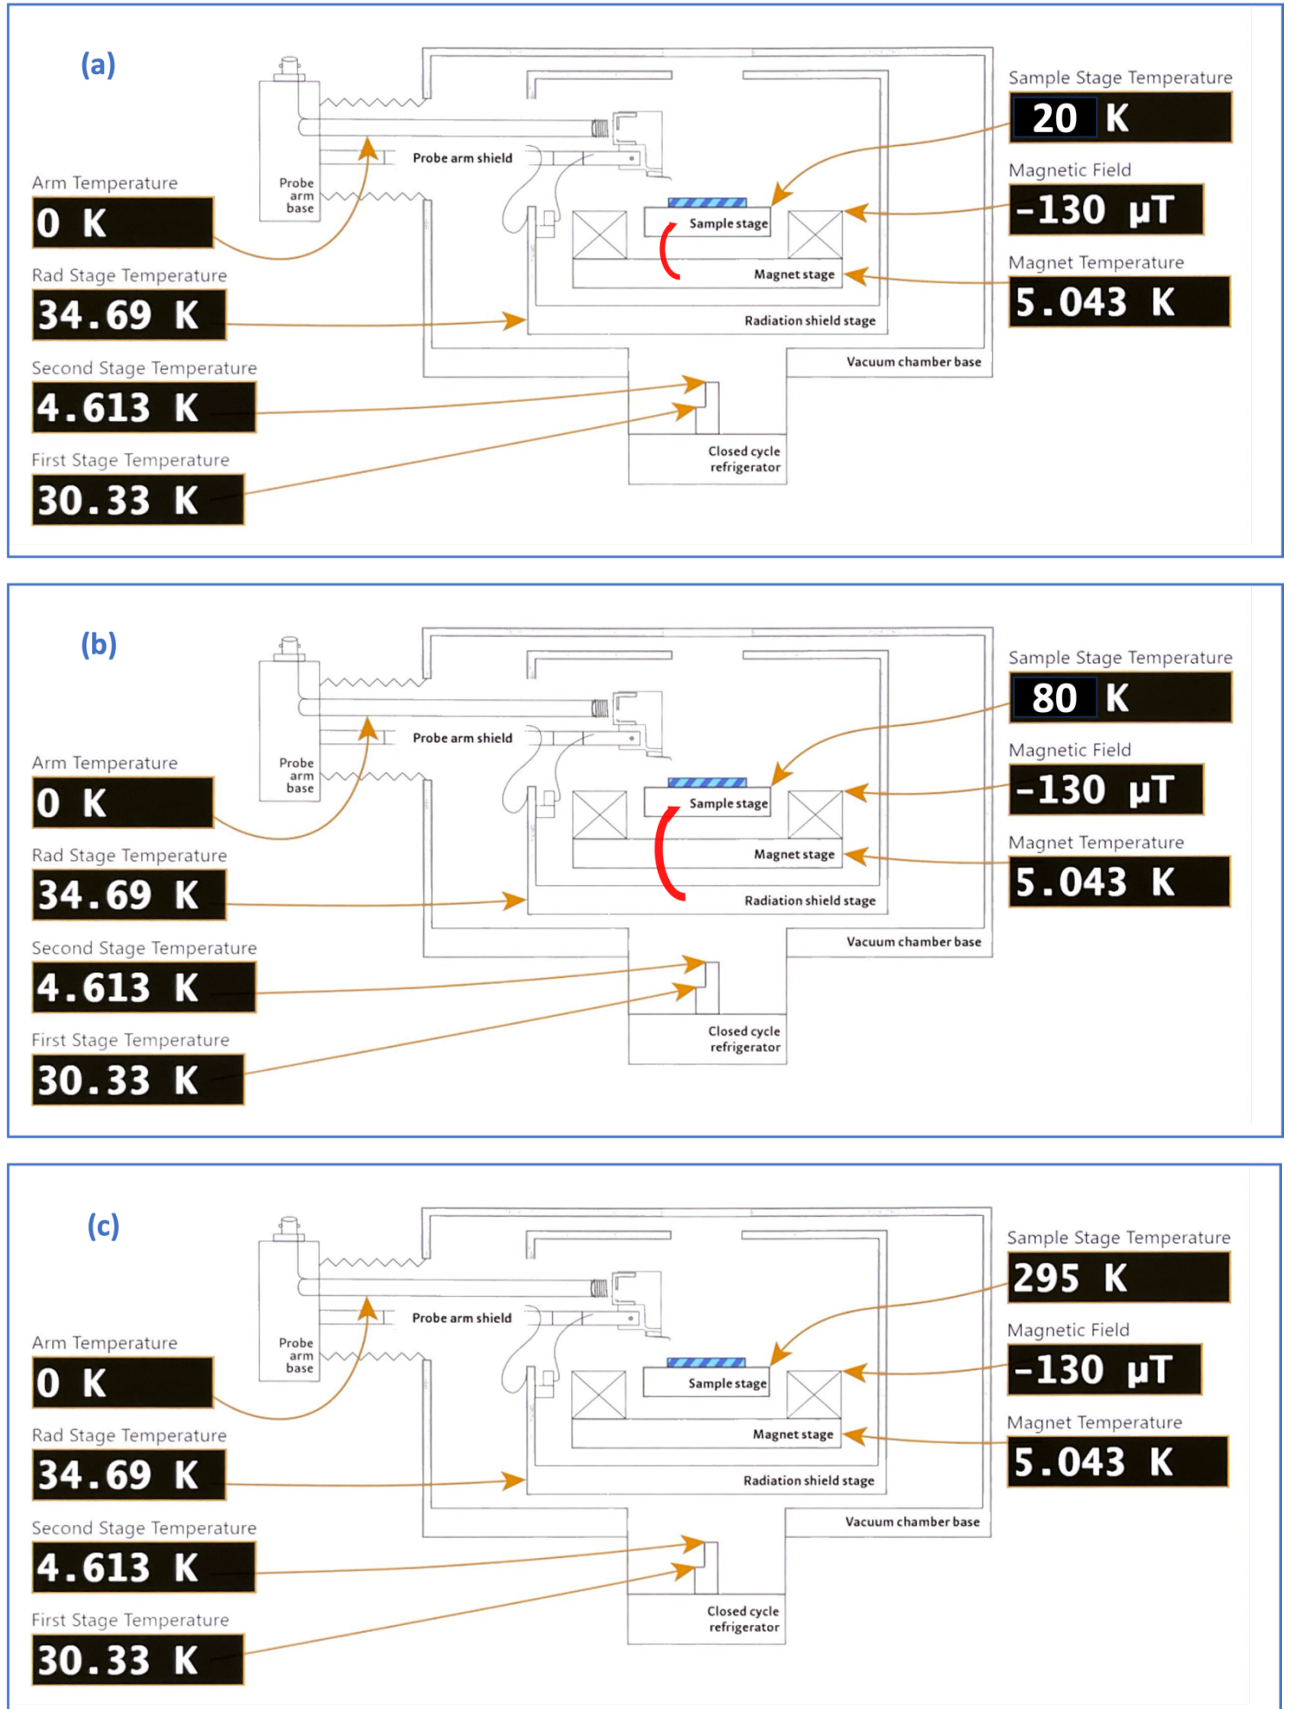

Figure 9. Sample stage thermal connection diagram
- To operate the sample stage **between 10 K to 35 K**, the heat switch should be in the **Base** range, where the sample stage is thermally connected to the magnet stage, as is shown in Figure 9 \(a\). Turn the heat switch knob towards the Rad position to increase the thermal resistance between the sample stage and magnet stage; while on the top Model 336 controller, set the sample stage setpoint to the desired temperature, and select the heating range to **Low**. The magnet and radiation shield stage heaters should remain off at this stage.
- To operate the sample stage **between 36 K to 100 K**, the heat switch is moved to the **Rad** position where the sample stage is thermally connected to the radiation shield stage, as is shown in Figure 9 \(b\). Adjust the heat switch from full stop in the Rad direction (for temperatures close to 36 K) to 2.5 turns in the Base direction (for temperatures close to 100 K). On the top Model 336 controller, change the sample stage setpoint to the desired temperature, and select the heating range to **Med**.
- To operate the sample stage **between 100 K to 400 K**, the heat switch is moved to the **Open** position where the sample stage is thermally isolated from both the magnet stage and the radiation shield stage, as is shown in **Figure 9 (c)**. The heat switch is set at the midpoint of its travel (five turns from either full stop position). Over this entire operating temperature range no fine adjustment of the heat switch is required. On the top Model 336 controller, change the Input A sample stage setpoint to the desired temperature, and select the heating range to **High**.